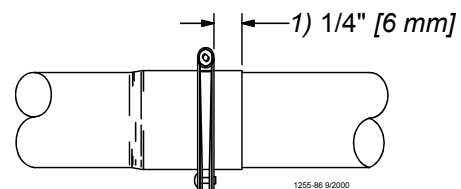

Figure 63. Tube Clamp Location
- Continue to set each Auger Tube in the feeder line. After each tube is set, tighten the clamp on the bell end toward the hopper. The clamps should be positioned as shown in Figure 63. Do not crush the tubes by overtightening the clamps.
7. Index each of the remaining tubes in the same manner. After each tube has been set, tighten the clamp on the bell end toward the hopper. Position the clamps on the tube joints, as shown in **Figure 63**.